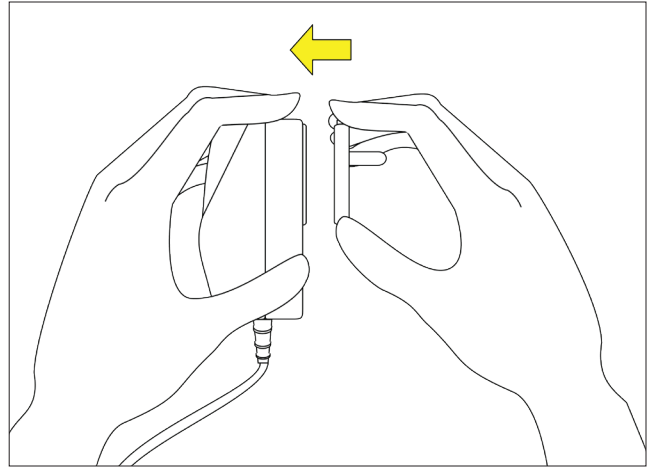

Figure 5. Install the plug adapter.
- (c) Install the proper power outlet plug adapter onto the ac adapter. See Figure 5.